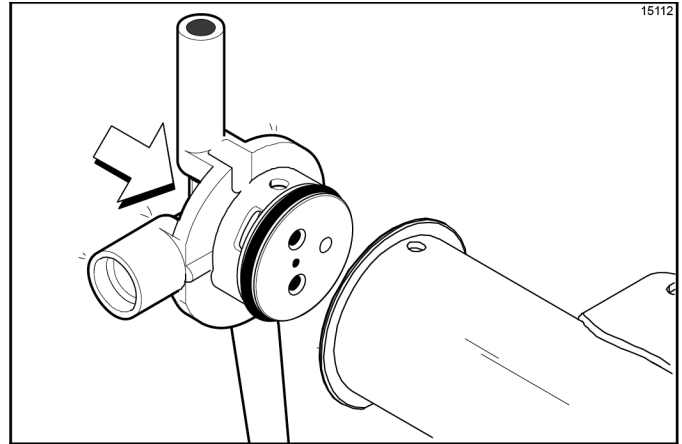

Figure 6-35
8. Insert the mix inlet assembly into the pump cylinder. (See Figure 6-35.)